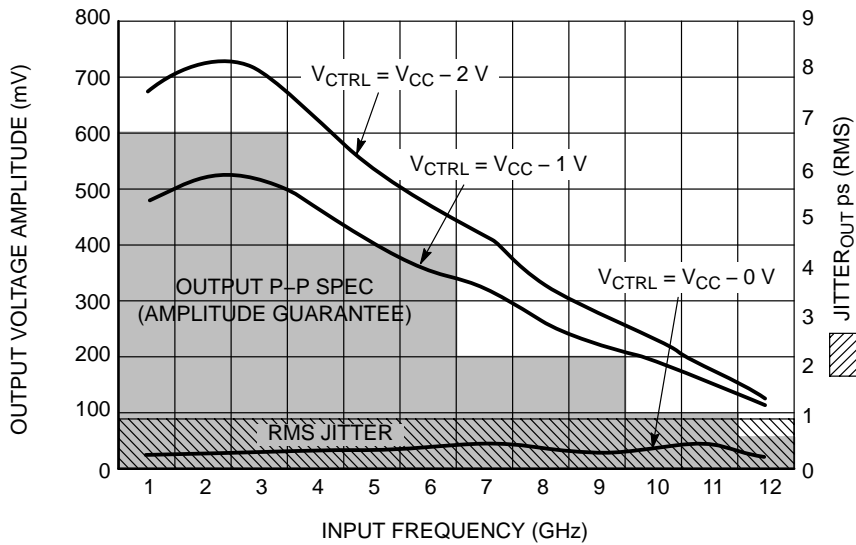

Figure 9. Output Voltage Amplitude ( $V_{OUTPP}$ ) / RMS Jitter vs. Input Frequency ( $f_{in}$ ) at Ambient Temperature (Typical)
33. Conditions include input amplitude of 500 mV and  $V_{CTRL} = V_{CC} - 2\text{ V}$ . Minimum output amplitude guarantee of 100 mV (see Output P-P Spec in Figure 9).
41. Conditions include input amplitude of 500 mV and  $V_{CTRL} = V_{CC} - 2\text{ V}$ . Minimum output amplitude guarantee of 100 mV (see Output P-P Spec in Figure 9).